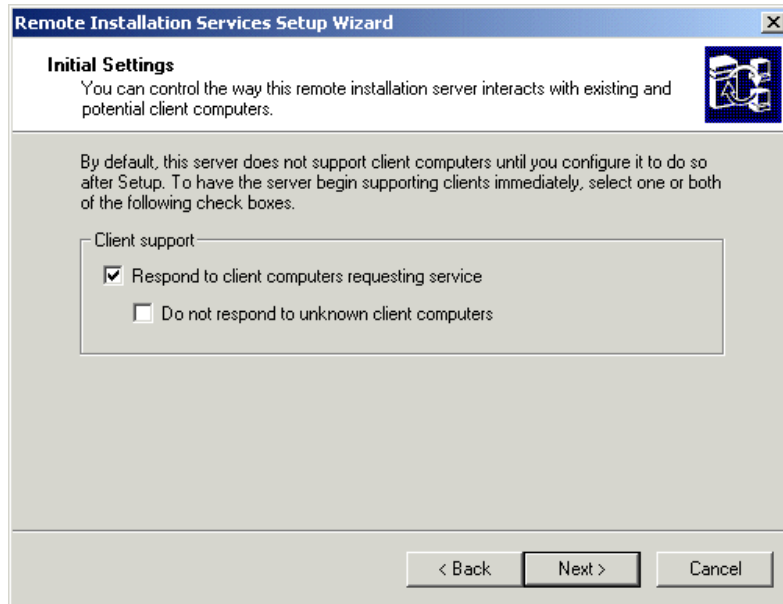

Figure 3-3 Settings for RIS-installation
10. Select **Respond to client computers requesting service** (Figure 3-3) and click **Next**.